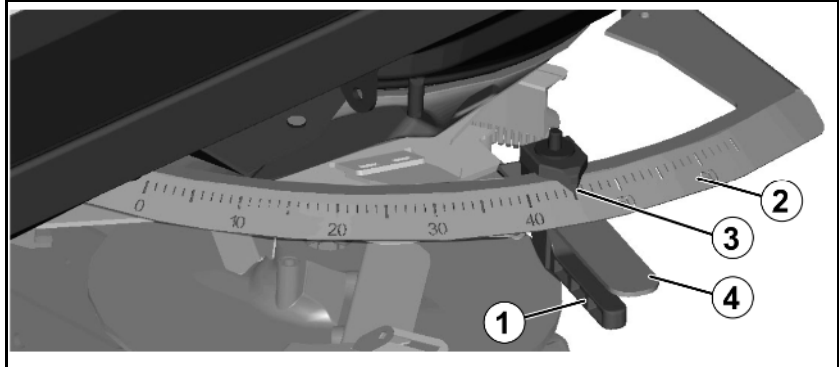

Fig. 48
2. Release the (Fig. 48/1) locking mechanism.
3. Look for the required slider position on the scale (Fig. 48/2).
4. Adjust the read-off edge (Fig. 48/3) of the setting lever pointer (Fig. 48/4) so that it corresponds to the scale value..